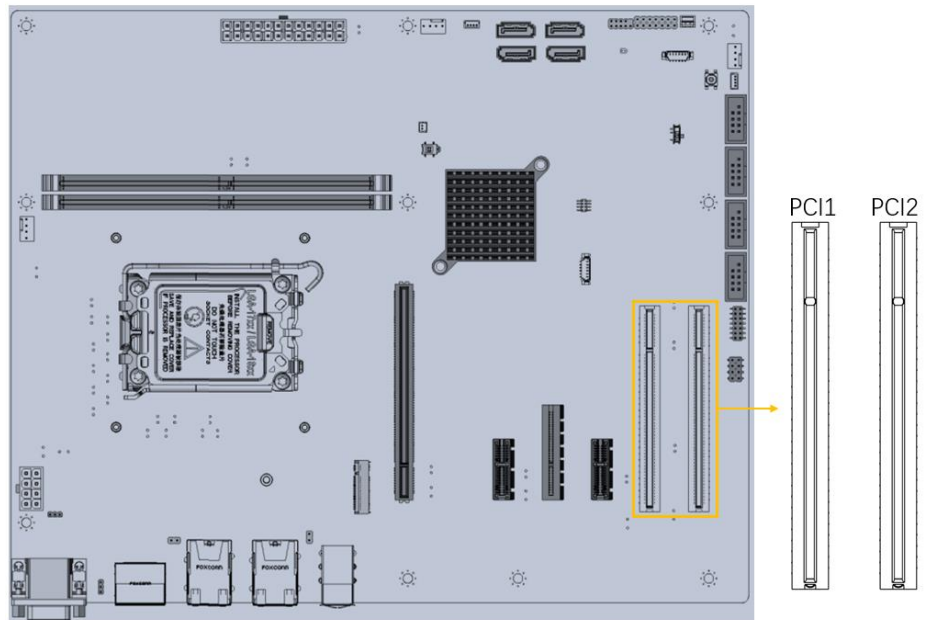

Figure 3-28: PCI Slot Locations
- CN Location:** See **Figure 3-28**